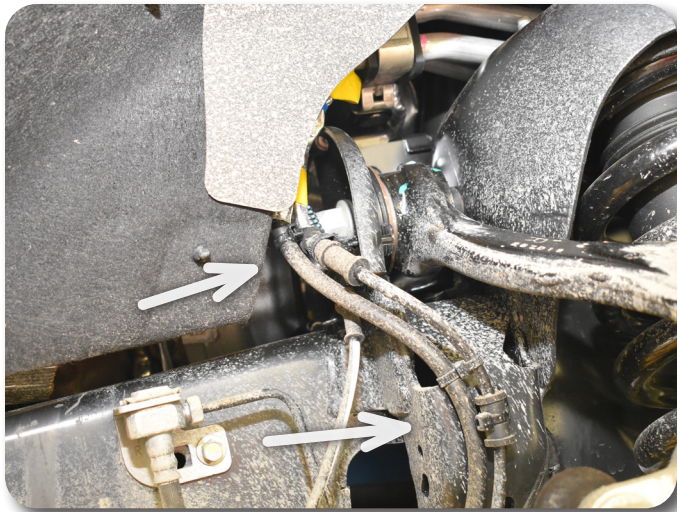
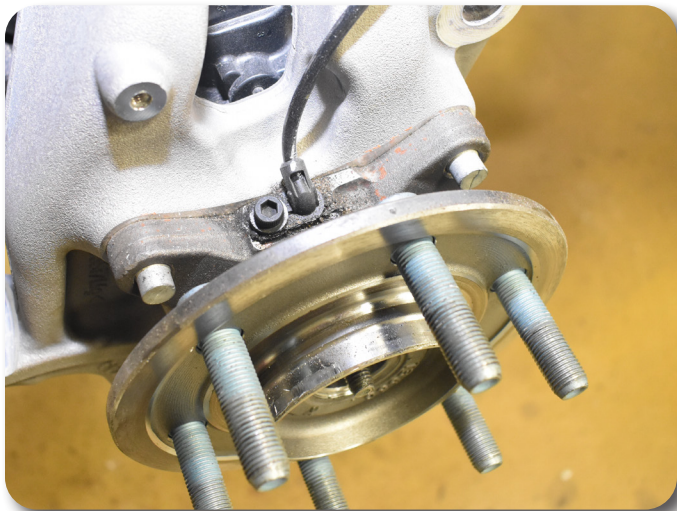

Figure 3A
Figure 3B
8. Disconnect the ABS lines from the retaining clips **Figure 3A**. Remove the ABS sensor from the hub **Figure 3B**.